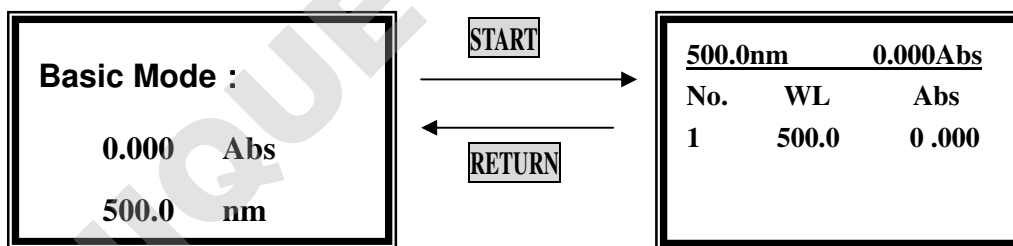

Fig. 8
Push the sample into light path, press **【START】** to go into basic mode test interface.(Fig. 8)
- ① 5 groups of test data can display per screen, total 200 groups of data can be saved.
- ② In the right one of Fig. 8, you can change your test wavelength, blank, change test mode and print by press **【GOTO λ】**, **【ZERO】**, **【SET】** and **【PRINT】** respectively.